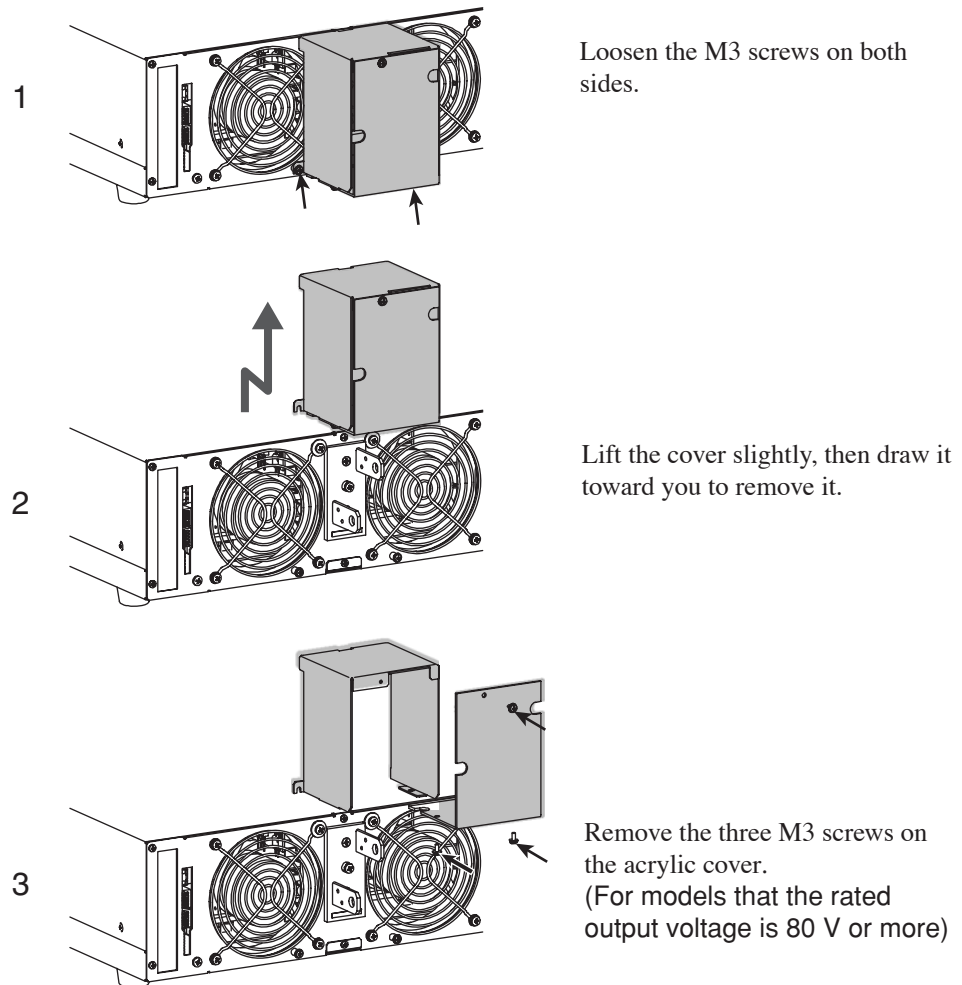

Fig. 3-9 Remove the DC OUTPUT terminal cover
Fig. 3-9 to Fig. 3-13 which are seen in the following procedures show examples of the 2kW model. See Fig. 3-9 to Fig. 3-13 for the 4kW model also. Connection to the output terminal is the same as the 2kW model.
2. Remove the DC OUTPUT terminal cover. See Fig. 3-9.
Skip 3 of Fig. 3-9 for the PAM40-50 or PAM40-100 user. The acrylic cover is not attached for those models.